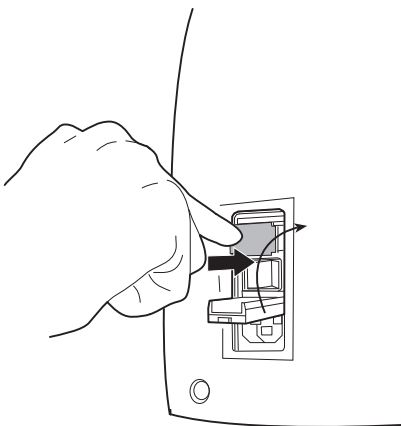

Figure 5-9 Install the Fuse Holder
10. Insert the fuse holder back into the power entry module. The module can only be inserted in one direction. (Refer to Figure 5-9.)